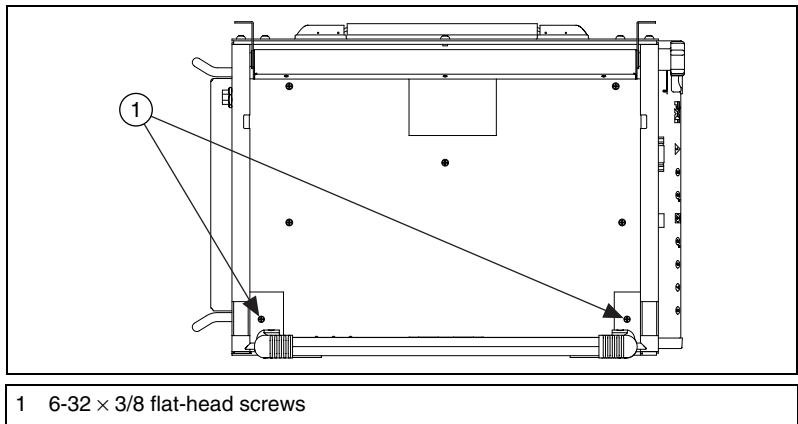

Figure 6. Installing the Lower Mounting Screws
7. Open the keyboard and LCD, as shown in Figure 6. Install the supplied 6-32 × 3/8 flat-head screws in the lower corners of the PMA-1115.